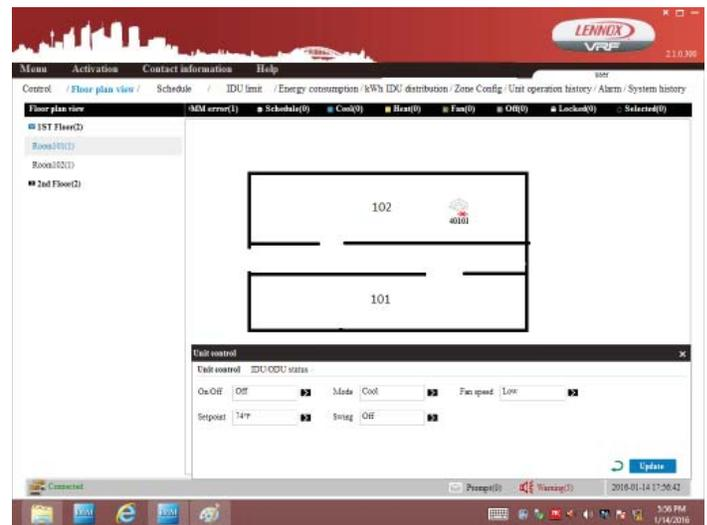

Figure 23. Save Indoor Unit Position
7. Tap the Add button in the lower right of the window. The selected indoor units are added to this schedule. The indoor units are not available to be added to other schedules. See figure 23.